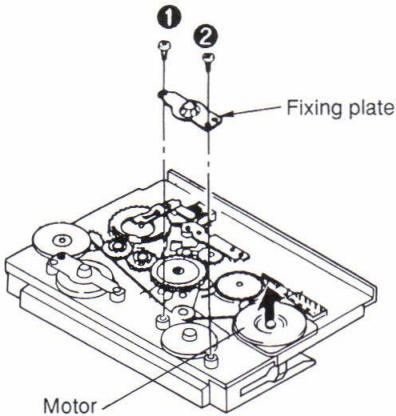

Fig. 2
- Remove the 2 screws(③, ④) and the fixing plate. (Refer to Fig. 2.)
- Remove the motor in the direction of arrow. (Refer to Fig. 2.)